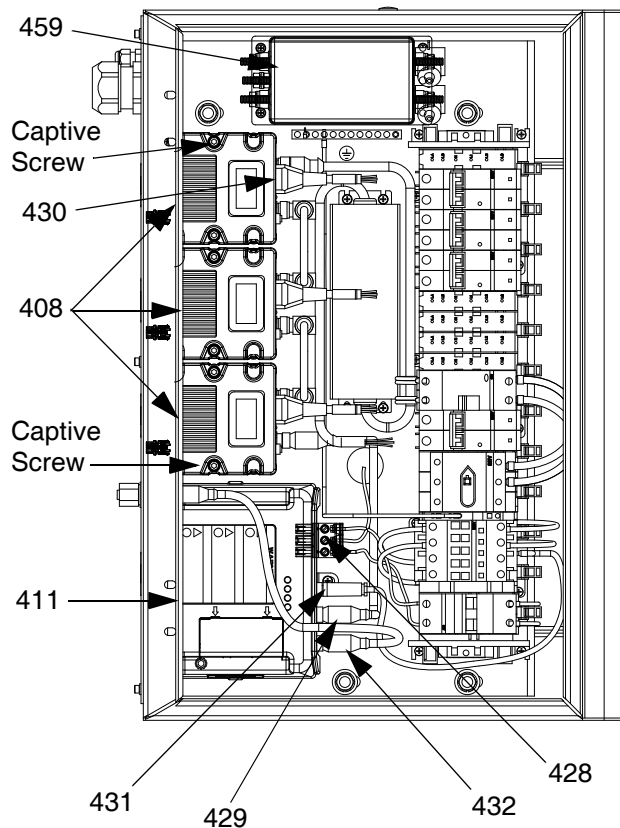
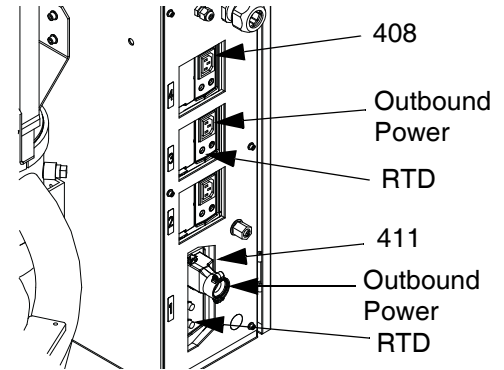

FIG. 48: Internal View of Electrical Enclosure
FIG. 49: Back View of Electrical Enclosure
1. Open enclosure door (402). Disconnect the following cables from low power TCM (408):
- incoming power supply cable (430)
- outbound power supply cable (see FIG. 49)
2. Loosen both captive screws (409) holding low power TCM (408) to base (407); remove low power TCM. See FIG. 48.
1. Open enclosure door (402). Disconnect outbound power supply and RTD cables from high power TCM (411). See FIG. 49.
2. Remove electrical enclosure side panel (436). See **Electrical Enclosure Parts** on page 90.
3. Disconnect all four incoming cables (432, 428, 429, 431) from high power TCM. See FIG. 48.
4. Remove both screws (415) that secure brackets (412, 413) of high power TCM to electrical enclosure. Remove high power TCM. See **Electrical Enclosure Parts** on page 90.